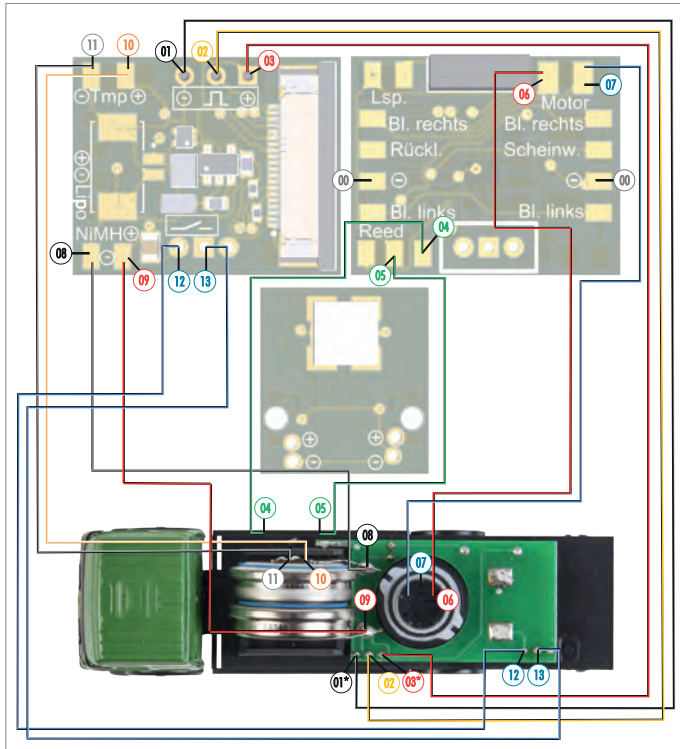

Abb. 38: Wiring diagram, Type bus model
***NOTE:** Locate the "+" (plus) terminal of the charging port that you previously identified and marked, and connect it to terminal "03" on the conversion board. In the wiring diagram Abb. 38 are "01" and "03" For vehicles, these are merely examples of possible configurations. See also Chapter "Convert a vehicle".